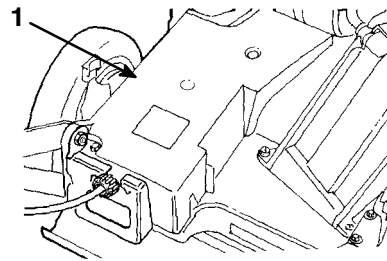

Figure 31
2. Remove the bolts that secure the belt cover (Fig. 31) to the lawn mower housing.